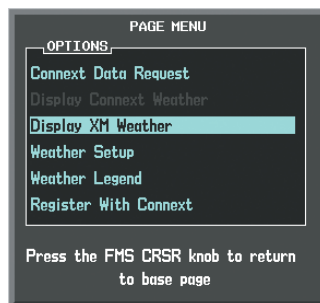

Figure 6-3 Changing the Data Link Weather Source
- 3) Press the **MENU** Key (Figure 6-3).